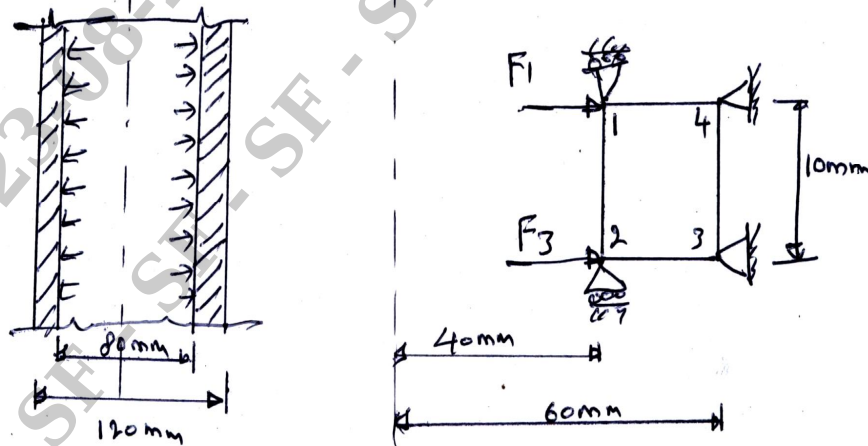

Fig.Q9
- 9 In Fig.Q9, a long cylinder of inside diameter 80 mm and outside diameter 120 mm snugly fits in a hole over its length. The cylinder is then subjected to an internal pressure 2 MPa. Using two elements on the 10 mm length, find the displacements at the inner radius. Take  $E = 200 \text{ GPa}$ ,  $\gamma = 0.3$ .